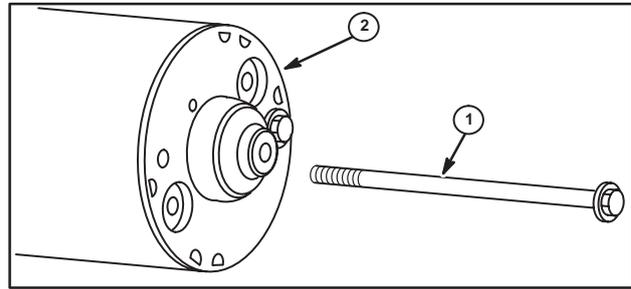

Fig. 34
- Remove both starter motor thru bolts (1), Fig. 34, and separate end cap (2) from housing.